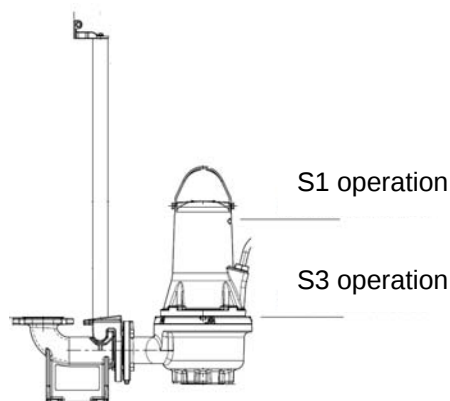

Fig. 2 Stop levels
- **S1 operation** (continuous operation), the pump must always be covered by the pumped liquid to the top of the motor. See fig. 2.
- **S3 operation** (intermittent duty), the pump must always be covered by the pumped liquid up to the top of the pump body. See fig. 2.